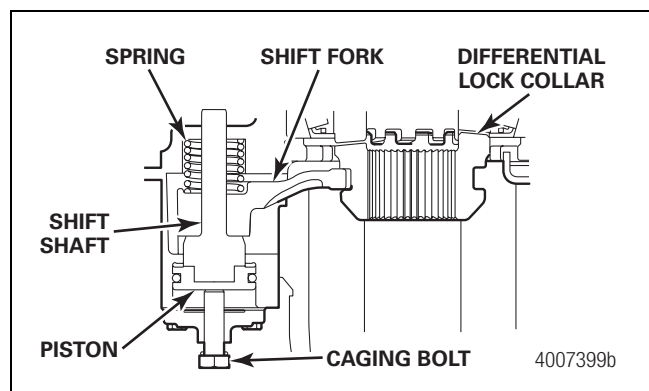

Figure 4
9. Install the caging bolt into the threaded hole in the center of the DCDL cover. Figure 4.
10. Turn the caging bolt clockwise until the head is approximately 0.25-inch (6 mm) from the cylinder cover. Do not turn the caging bolt beyond its normal stop. Figure 4. A high resistance on the caging bolt indicates that the teeth of the shift collar and the differential case half are not aligned or engaged. To align the teeth, use the following procedure.